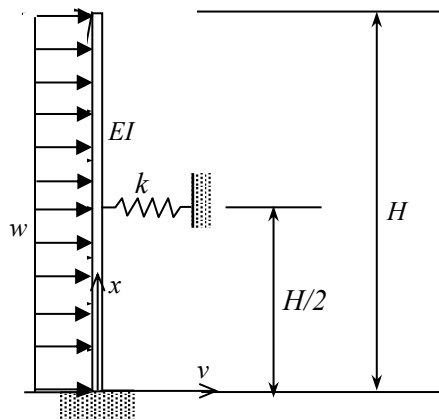

Figure 4
- (b). **Figure 4** shows a cantilever column with height H subjected to a uniformly distributed load w . One linear spring with spring constant k is located at the mid height of the column. The following expression for lateral displacement field v has been suggested: